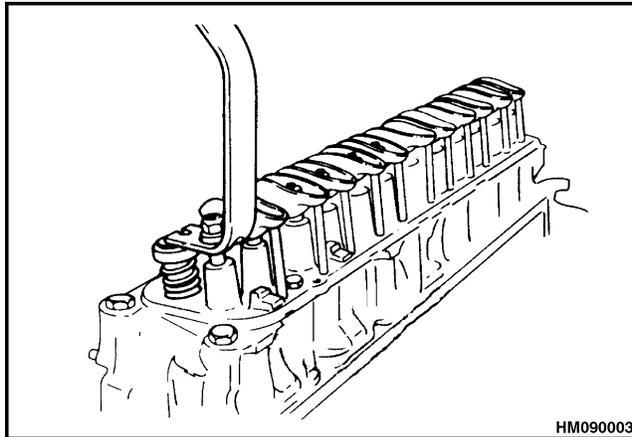

Figure 3. Valve Spring Compression
1. Use a compressor tool to compress the valve springs and remove the retainers. See Figure 2 and Figure 3. Release the compressor tool and remove the spring cap, (rotators when used), oil shield, and valve springs. Remove the oil seal and any shims from the springs.